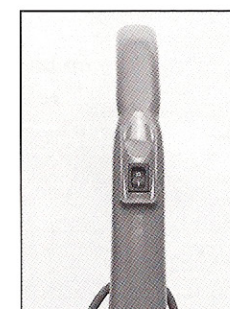

Fig. 5
1. To start the vacuum cleaner, flip the ON/OFF switch (located on the handle on Models R600, R700, R800 and R800C or on the side of bag compartment on Model R500) to the ON position as indicated by "I" on the switch [Figs. 5 and 6].